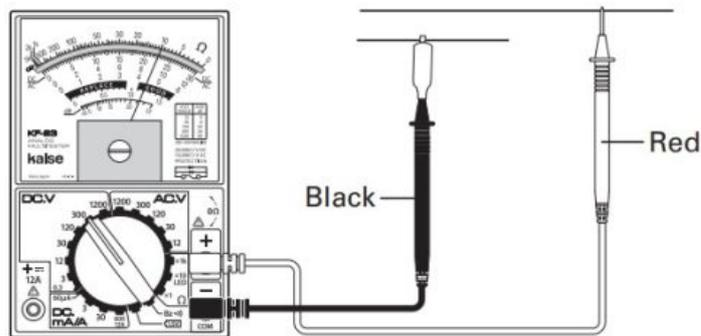

Fig. 2
**In case of live-line measurement, strictly observe the warnings below : (see Fig. 2)**